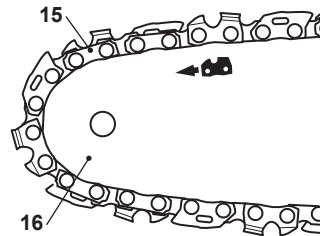

Fig. 2
3. Spread the saw chain (15) out with the cutting edges of the chain pointing in the direction of rotation. Slide the saw chain (15) into the groove around the guide bar (16). Ensure saw chain (15) is installed in correct direction of rotation (Fig. 2).